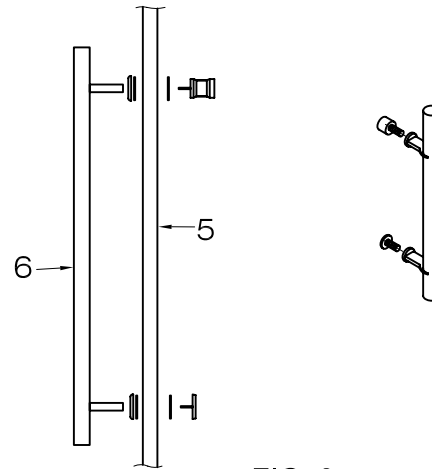

FIG. 9
1. Unscrew handle holders from the handle (6).
2. Place handle to the position on the door with plastic washer on each side of the door (FIG. 9)